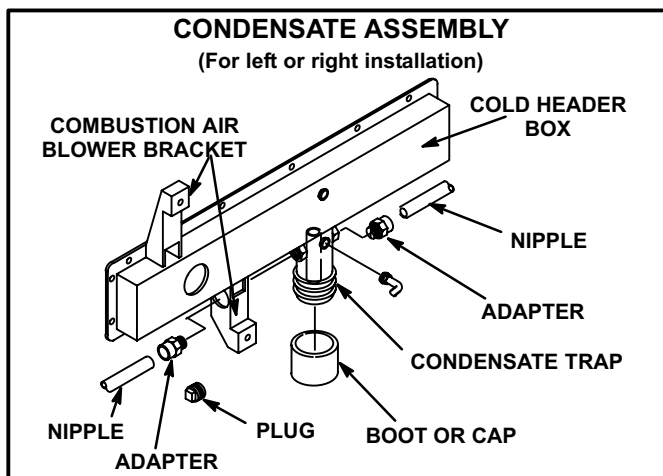

FIGURE 40
- 2 - Connect 1/2" (13mm) plastic pipe plug (provided) in the unused end of the condensate trap. Install plug so that it is sealed water tight yet able to be removed. Do not permanently seal the connection. Teflon tape is recommended to seal joint. See figure 40.